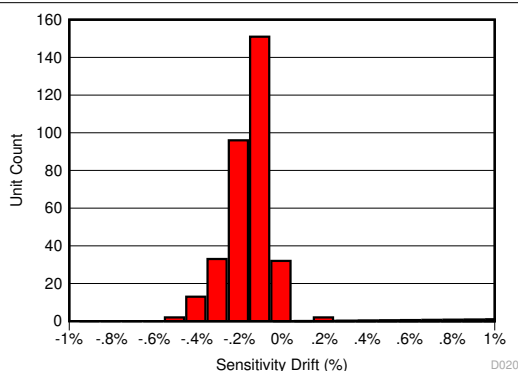
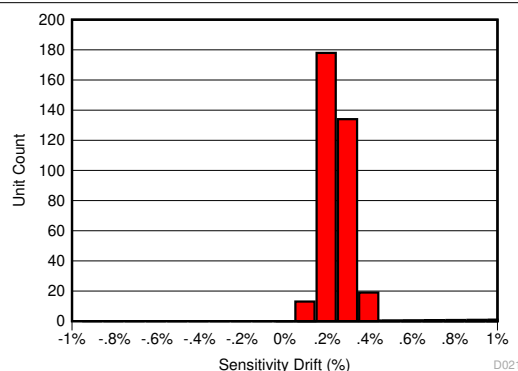
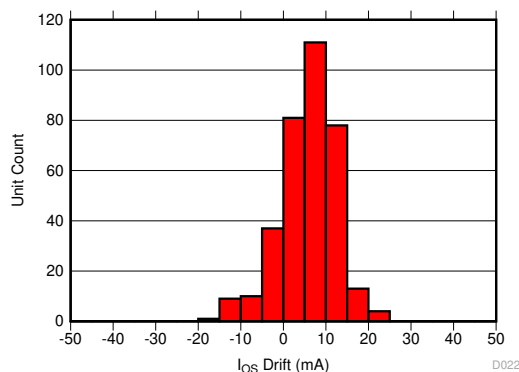

Figure 9-4. Sensitivity Error After 130°C, 85% RH HAST
Figure 9-5. Sensitivity Error Drift After AEC-Q100 High Temperature Operating Life Stress Test
Figure 9-6. Input-Referred Offset Drift After AEC-Q100 High Temperature Operating Life Stress Test
The same compensation techniques used in the TMCS1100 to reduce temperature drift also greatly reduce lifetime drift due to aging, stress, and environmental conditions. Typical magnetic sensors suffer from up to 2% to 3% of sensitivity drift due to aging at high operating temperatures. The TMCS1100 has greatly improved lifetime drift, as defined in the Electrical Characteristics for total sensitivity error measured after the worst case stress test during a three lot AEC-Q100 qualification. All other stress tests prescribed by an AEC-Q100 qualification caused lower than the specified sensitivity error, and were within the bounds specified within the Electrical Characteristics table. Figure 9-4 shows the total sensitivity error after the worst-case stress test, a Highly Accelerated Stress Test (HAST) at 130°C and 85% relative humidity (RH), while Figure 9-5 and Figure 9-6 show the sensitivity and offset error drift after a 1000 hour, 125°C high temperature operating life stress test as specified by AEC-Q100. This test mimics typical device lifetime operation, and shows the likely device performance variation due to aging is vastly improved compared to typical magnetic sensors.